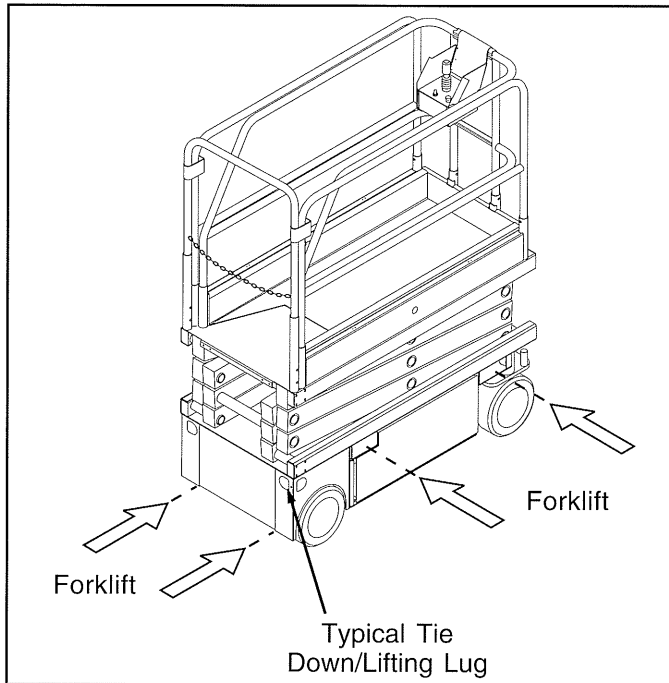

Figure 2-2: Transporting Work Platform
Forklift from side or rear using fork pockets provided (Figure 2-2).
1. Secure straps to chassis lifting/tie down points only (Figure 2-2).
2. Secure the work platform to the transport vehicle with chains or straps of adequate load capacity attached to the chassis lifting/tie down points (Figure 2-2).